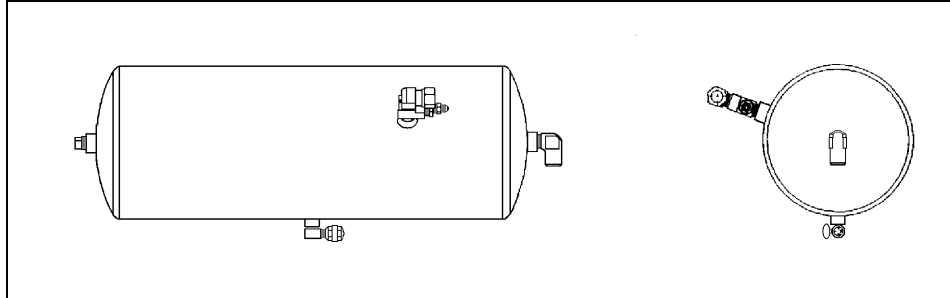

FIGURE 1: WET TANK
4. Bleed air from wet tank by opening drain valve located underneath tank (refer to fig. 1).